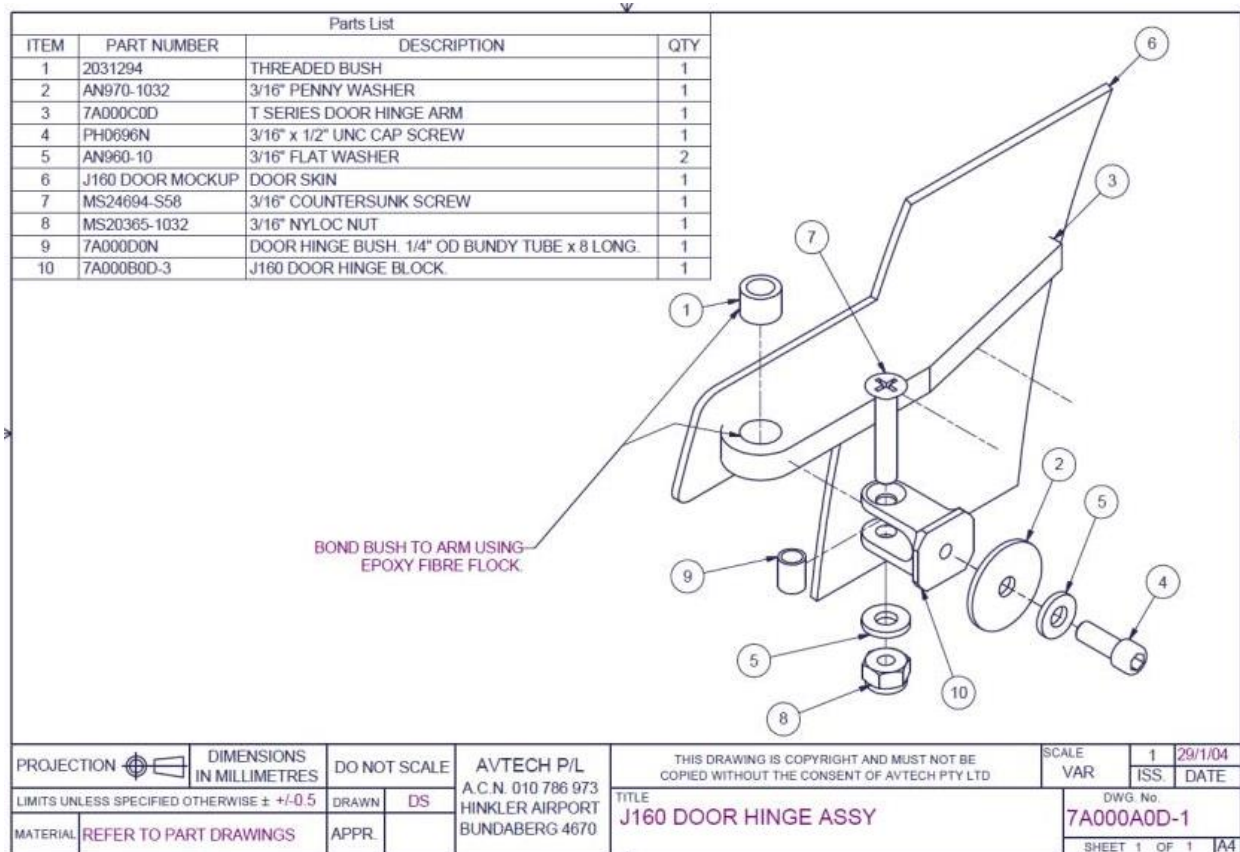
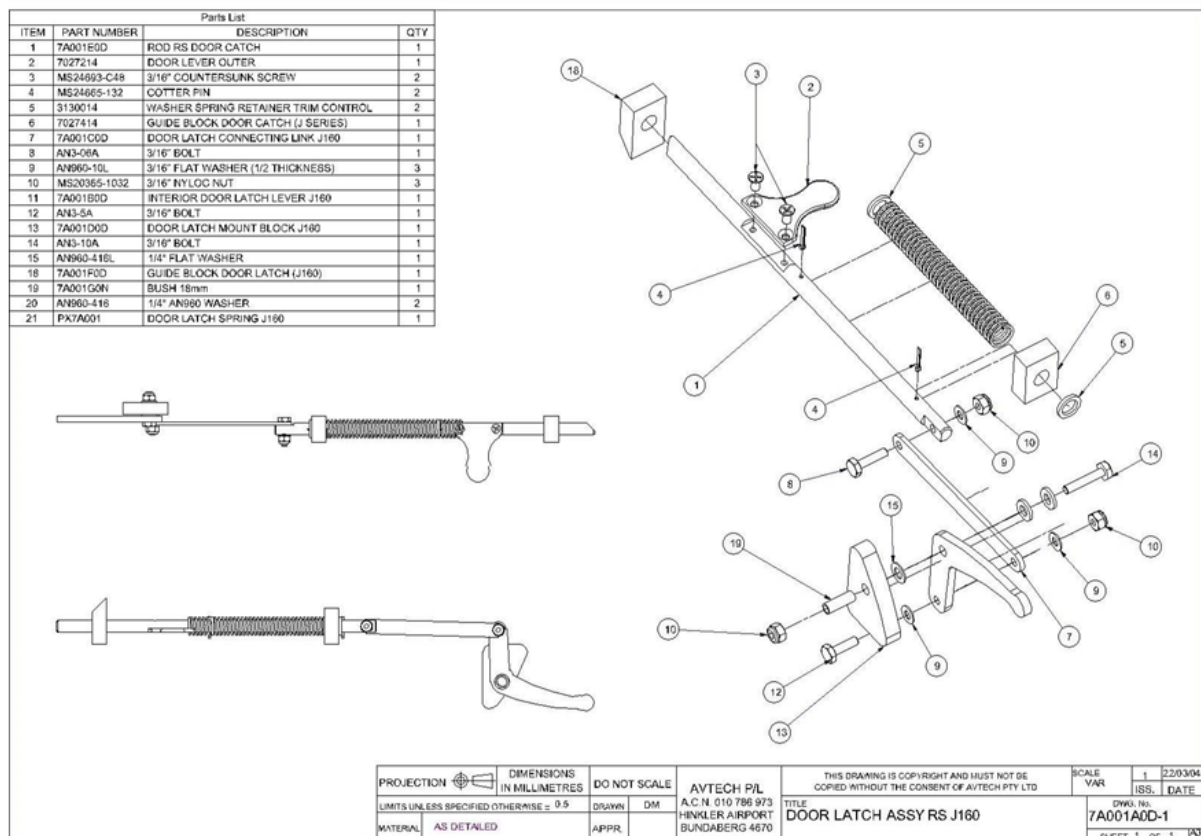
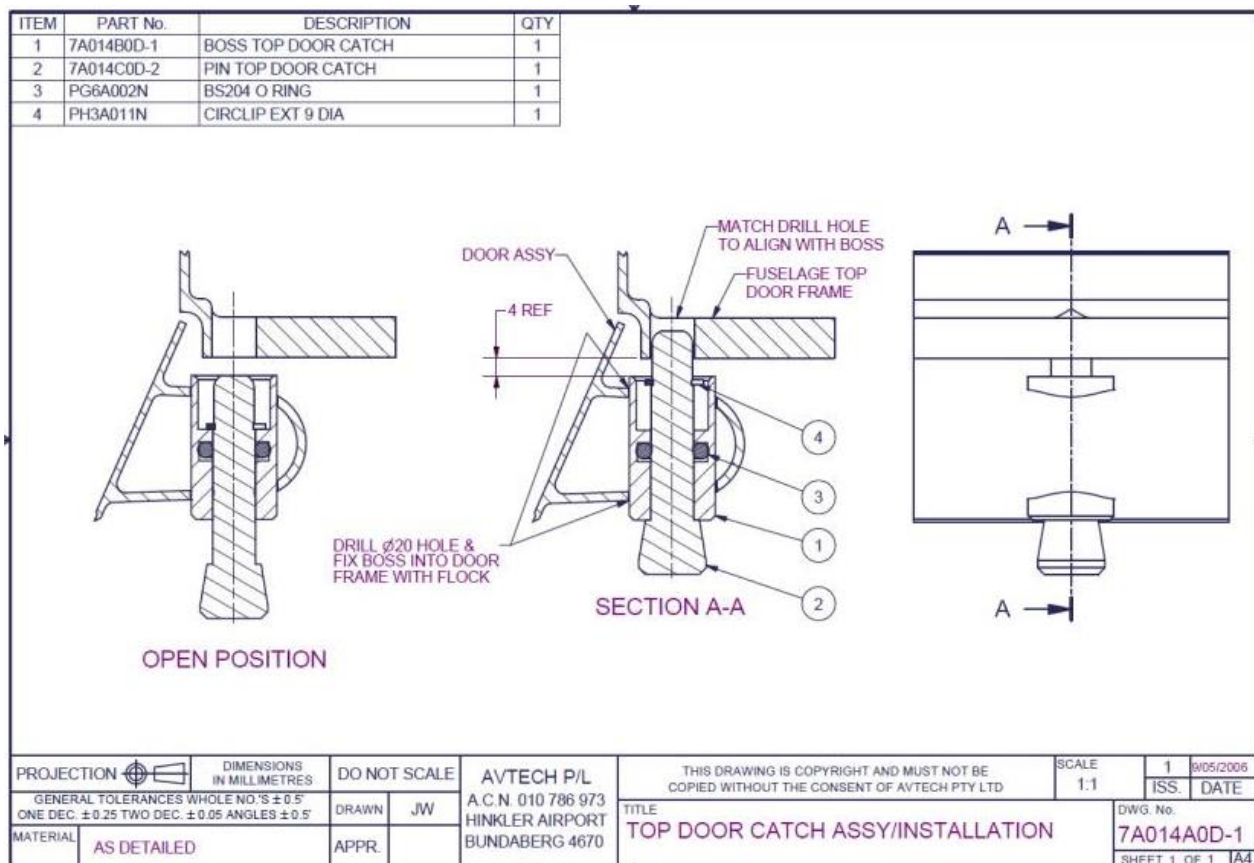

Figure 45 – J160-Type Door Hinge Assy (all J-Series, n/a J200/J400)
Figure 50 – J160-Type Door Latch Mechanism Assembly (all J-Series, n/a J200/J400)
Figure 51 – Top Door Catch Assy (all J-Series, n/a J200/J400)
- J160-Type cabin doors are those which use the door hinge assembly shown in Figure 45 and the latch shown in Figure 50. While early J200-family aircraft used a different hinge, later variants are equipped with “J160-Type” doors.
- Removal of doors is achieved by removing the hinge bolts or removing the machined screws that attach the hinges to the door frame. Refer to Figure 45 below.
- There is one main latch on each door of a simple spring type. This is complemented by a catch at the top front quadrant of each door. An assembly drawing of the latch mechanism is provided as Figure 50 below while the door-top latch is shown as Figure 51.